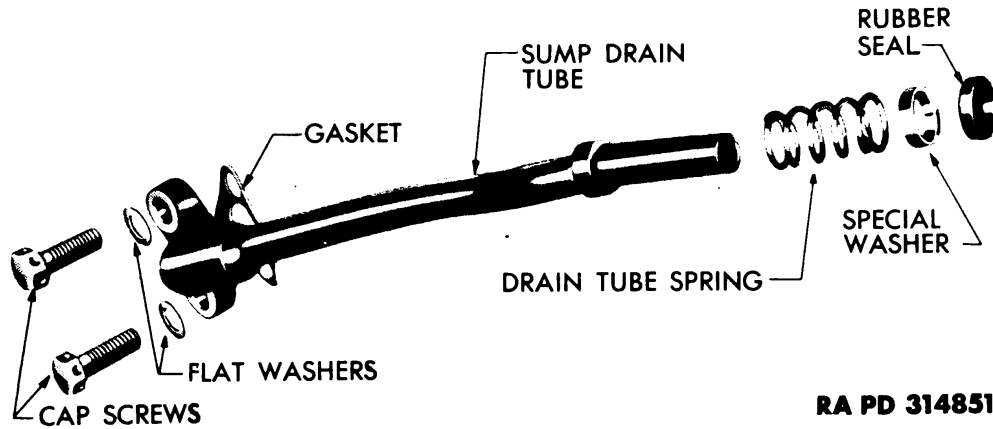

Figure 243 – Sump Drain Tube – Disassembled
(2) **INSTALL SUMP TANKS** (fig. 243). Place new gaskets for oil tube fittings over studs on each oil sump tank. Position tank assembly so that rocker box drain tube fitting studs on tanks pass through holes in fitting, and the holes in sump tank brackets fit over mounting studs on the Nos. 5 and 6 cylinder heads. Install flat washers and castellated nuts on rocker box drain tube fitting studs. Tighten nuts and secure them in pairs with lock wire. Attach three connecting pipes from sump spider assembly to each sump tank and to strainer